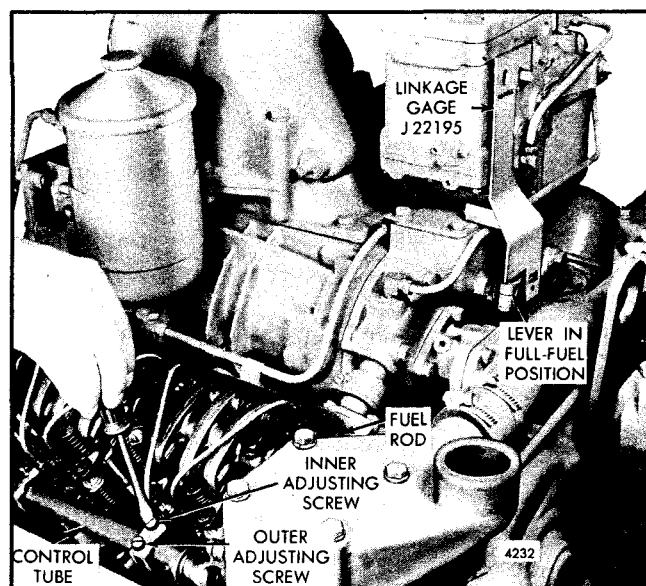

Fig. 3 - Positioning No. 1R Injector Rack Control Lever
7. Turn the inner adjusting screw of the No. 1R injector rack control lever down (Fig. 3) until a slight movement of the control tube is observed, or a step-up in effort to turn the screw driver is noted. This will place the No. 1R injector rack in the full-fuel position. Turn the outer adjusting screw down until it bottoms lightly on the injector tube. Then alternately tighten both the inner and outer adjusting screws.